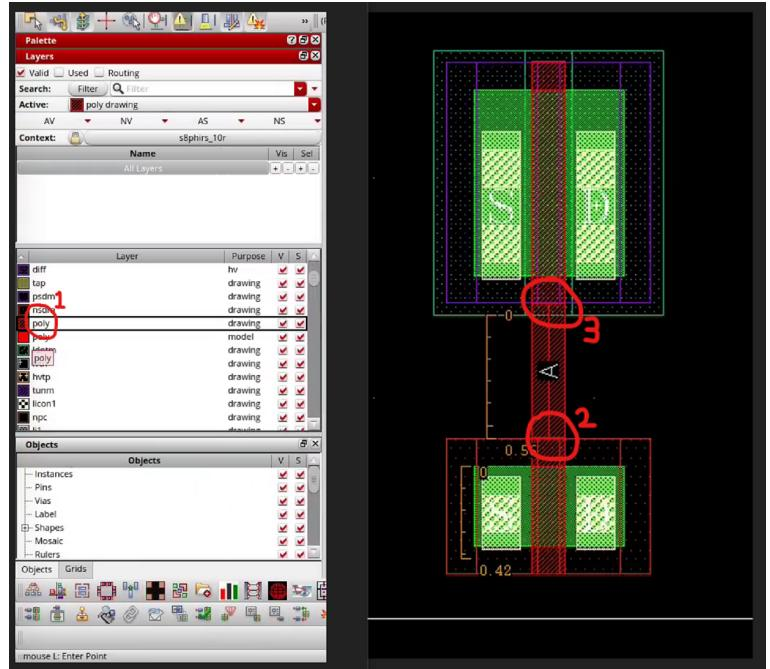

Figure 5: Poly-Silicon wire creation.
- Select the poly-silicon layer on the drawing layers panel on the left by choosing *poly – drawing*, as depicted in Fig. 5.